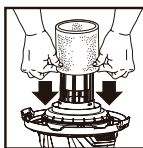

FIGURE 13
33. With tank cover in an upside down position, slide foam sleeve down over lid cage pulling until foam sleeve completely covers lid cage. **FIGURE 13.**